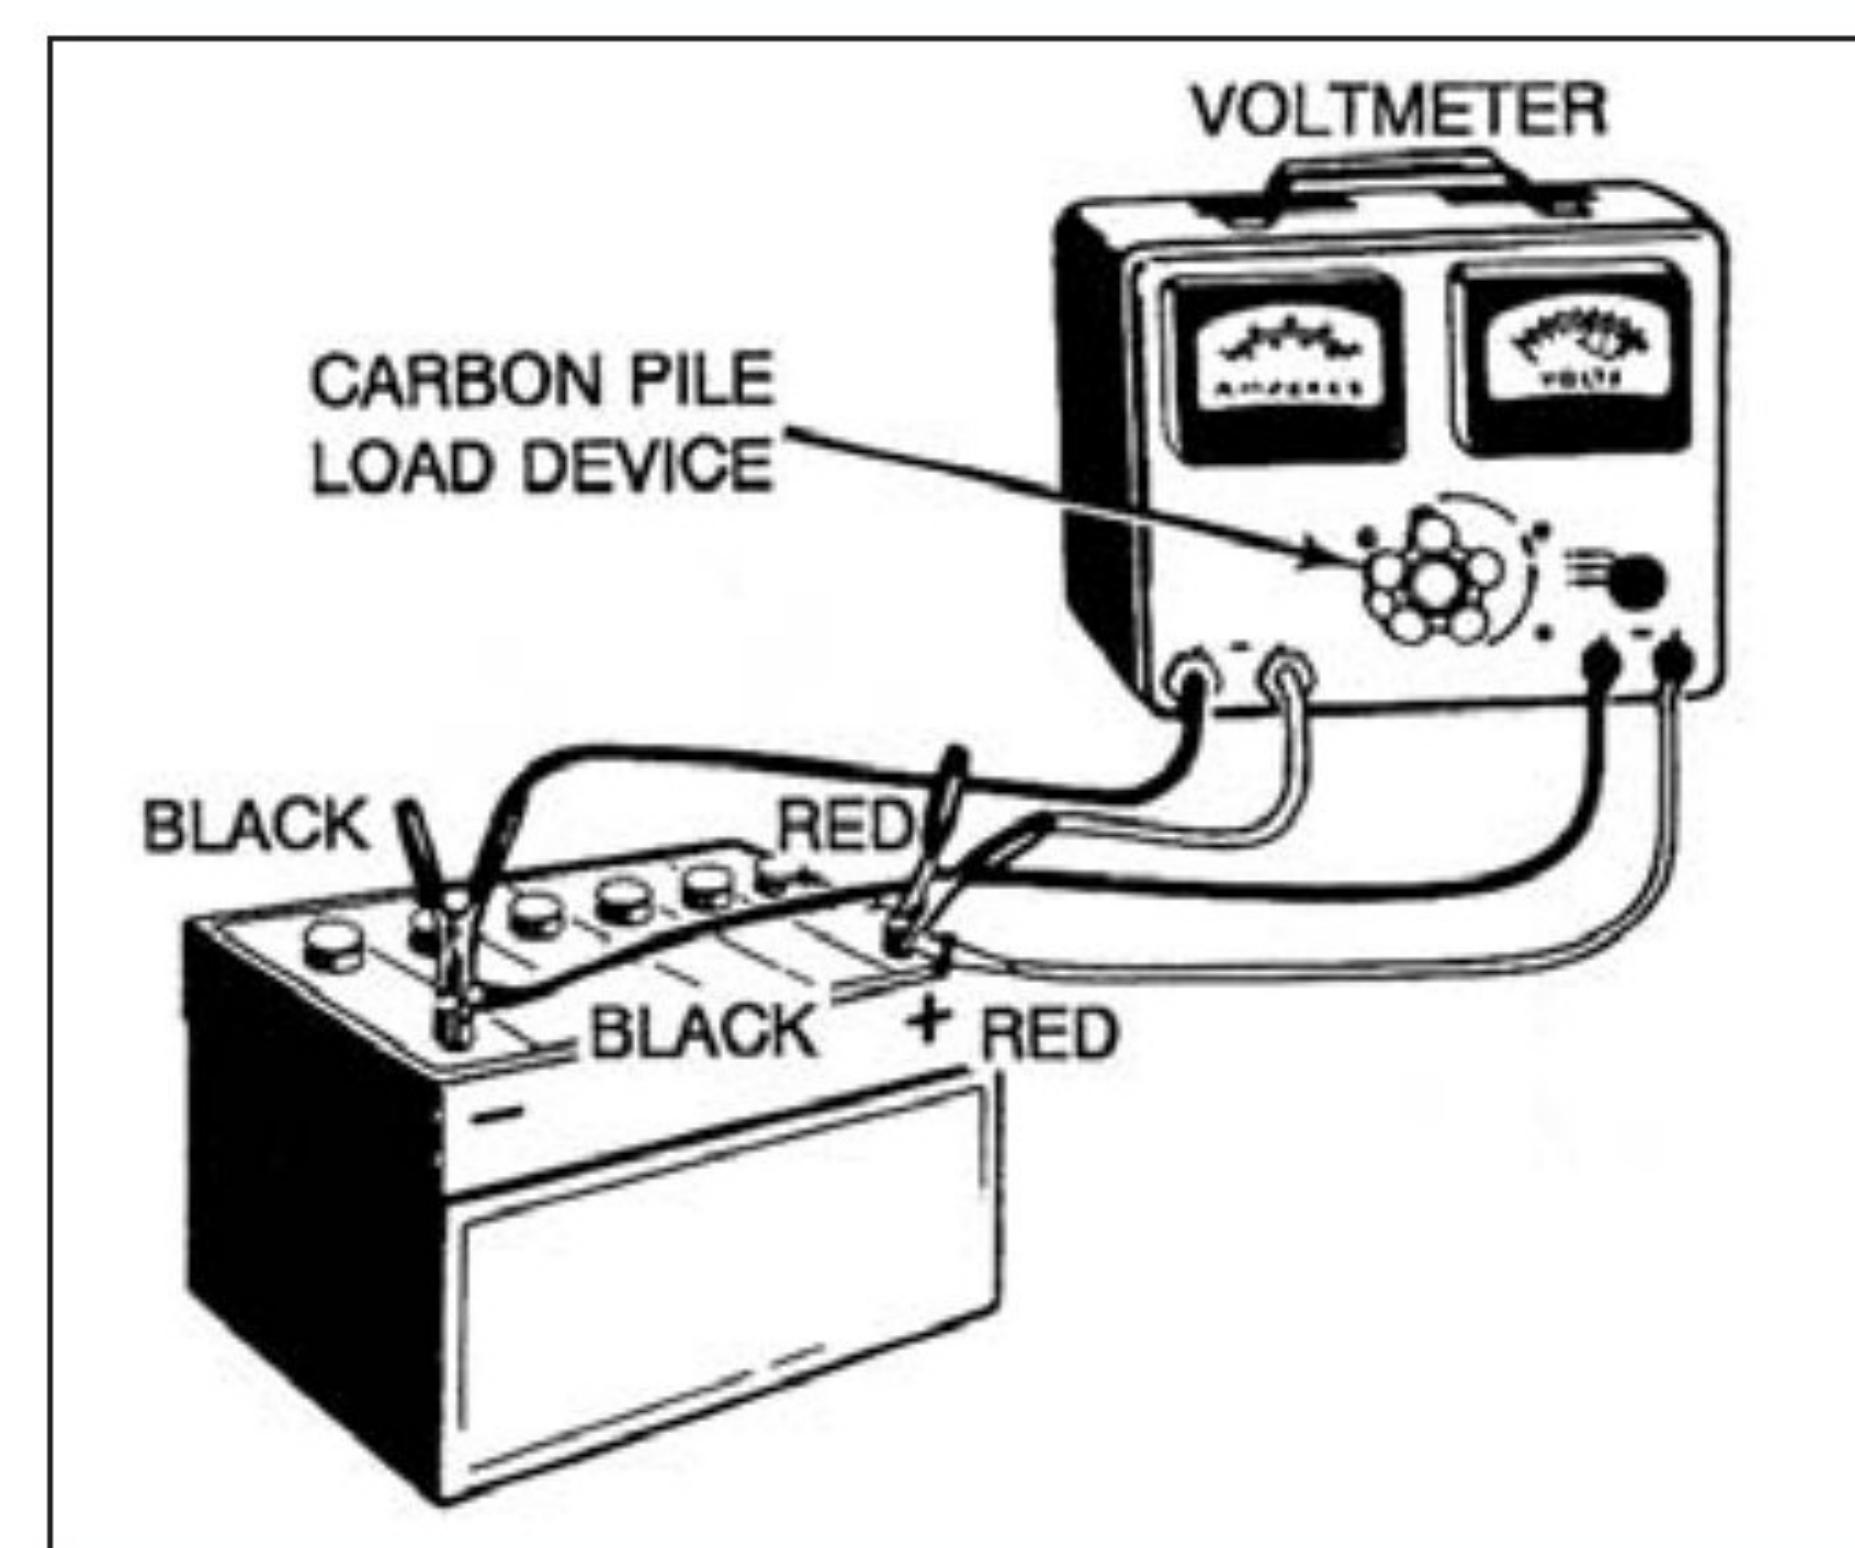

Figure 1-23—Charging/Starting System Tester - Typical
1. Connect a volt/amp tester with a rheostat (carbon pile) across the battery terminals (Figure 1-23). Note: On some batteries, the use of battery side terminal adapters may be required to ensure good connections.